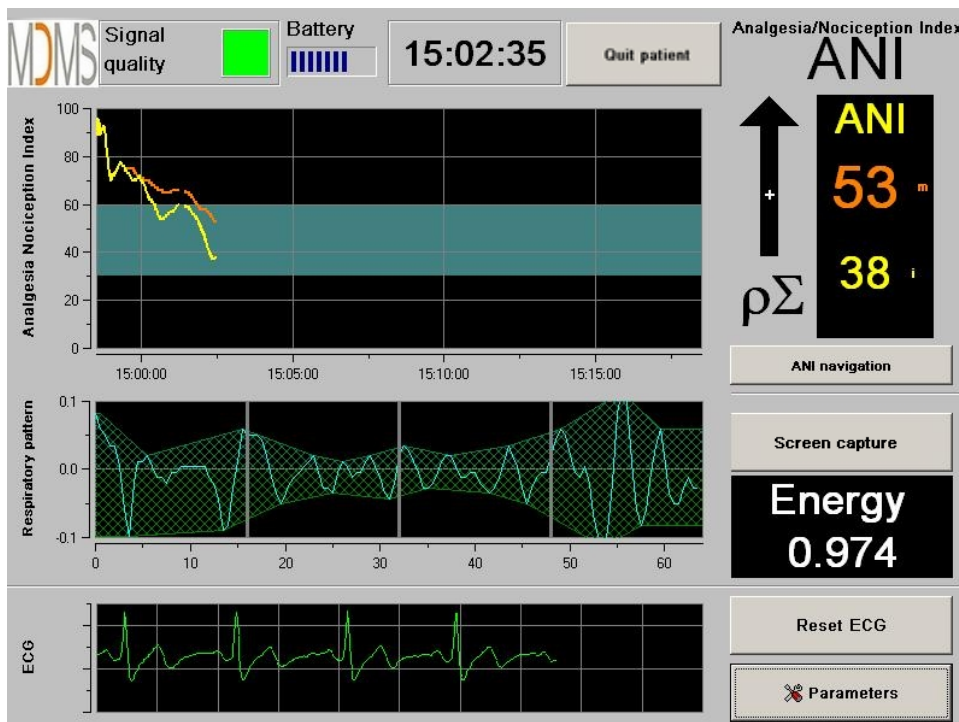

Figure 30
- **"Expert mode"**: display of respiratory pattern and an additional function called "Energy" (figure 30)